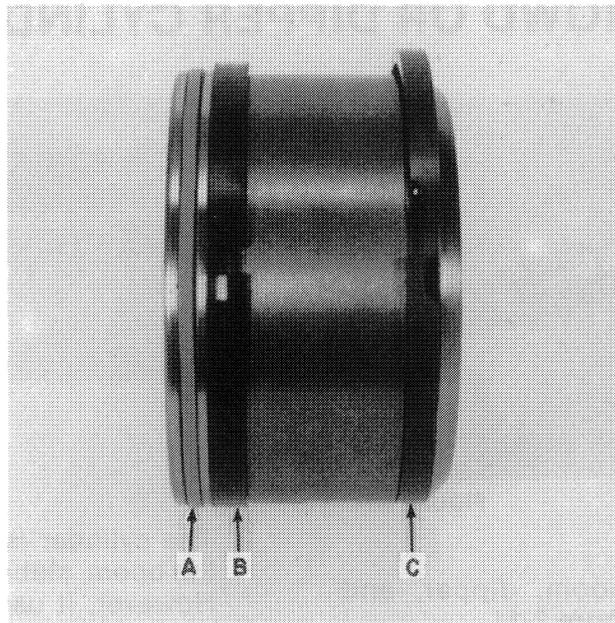

FIGURE 2-10
5. Install O ring, N, Figure 2-9, in the groove in the piston. Install Teflon ring, M, over O ring, A, Figure 2-10.
6. Install wear ring, O, Figure 2-9 or B, Figure 2-10, and C. I. ring, Q, Figure 2-9 or C, Figure 2-10.